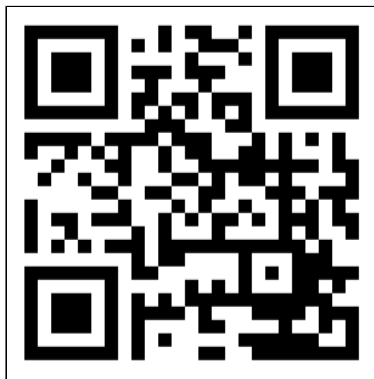

Figure 48.
1. Open the Eurom Smart App manual with the QR code (Figure 48) or go to www.eurom.nl/nl/manuals.